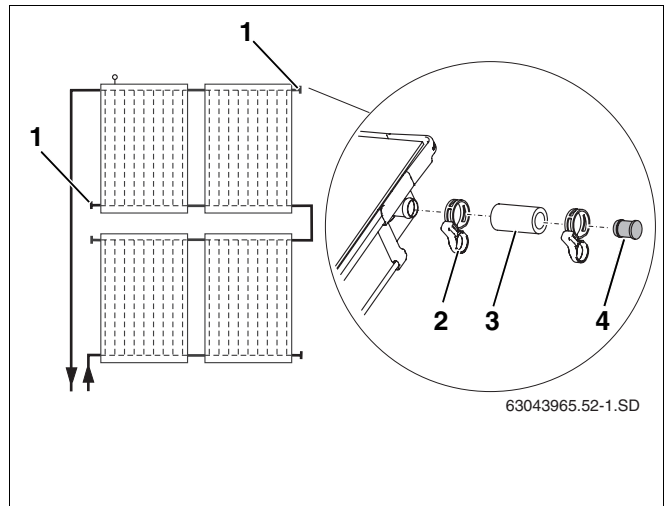

Fig. 59 Fitting the preassembled dummy plugs
Use the dummy plugs to close up any collector connections not in use (Fig. 59, **Item 1**).
- ▶ Place 55 mm solar hoses (Fig. 59, **Item 3**) together with the preassembled dummy plugs onto the two free connections.